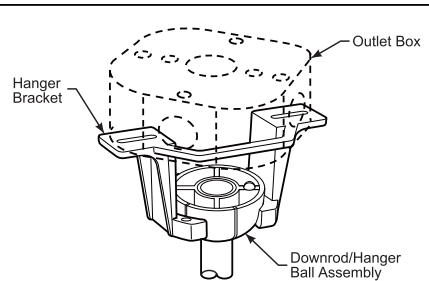

Figure 4
2. Carefully lift the fan and seat the downrod/hanger ball assembly onto the hanger bracket that was just attached to the outlet box. Be sure the groove in the ball is lined up with tab on the hanger bracket. (Figure 4) This fan is intended for standard and angled mounting options only. Closemount and flushmount options are not available. For angled ceilings, note the angle can be no more than 19°.